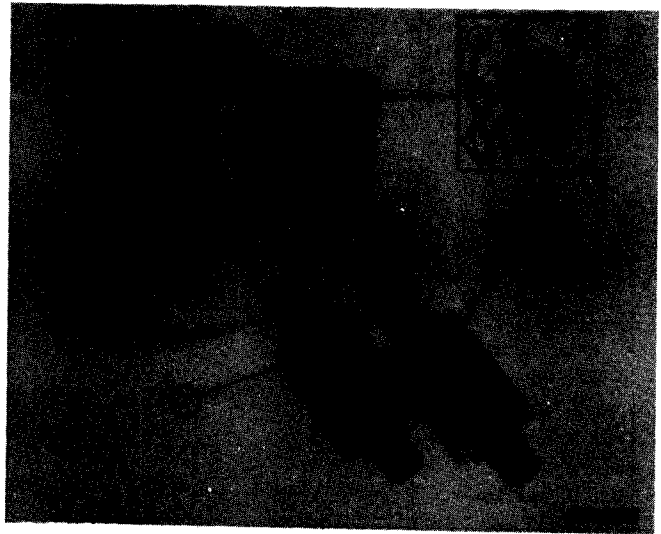

Figure 3-64
Remove input drive gear (3, Fig. 3-64) and driven gear (2) from pump body (1). If gears are to be reused mark them with match marks before removal.
Install new seal (4, Fig. 3-64), pressure loading seal (5) and wear plate (6) in pump body bore.